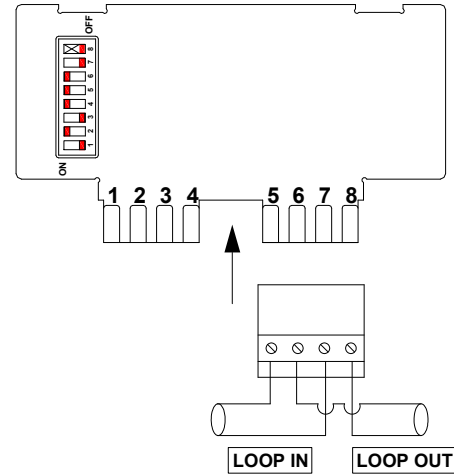

Fig. 2: 660 wiring connections
2. Connect the conductors to the terminals as shown in Fig. 2.